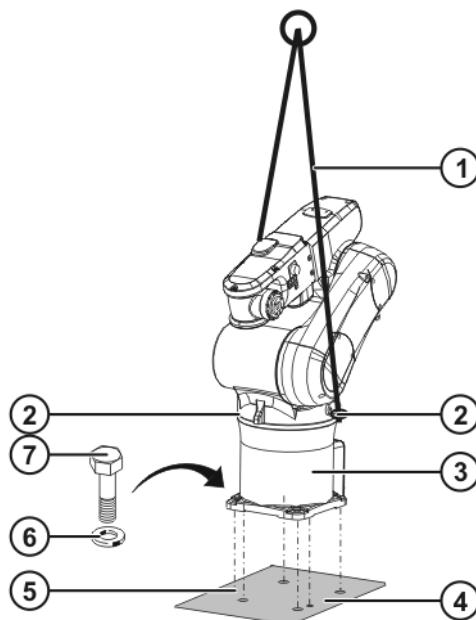

Fig. 8-1: Installing a floor-mounted robot
1. Check that both locating pins (**>>> Fig. 8-1**) are undamaged and fitted securely.
4. Screw 2 eyebolts (**>>> Fig. 8-1**) into the base frame and insert the lifting tackle.